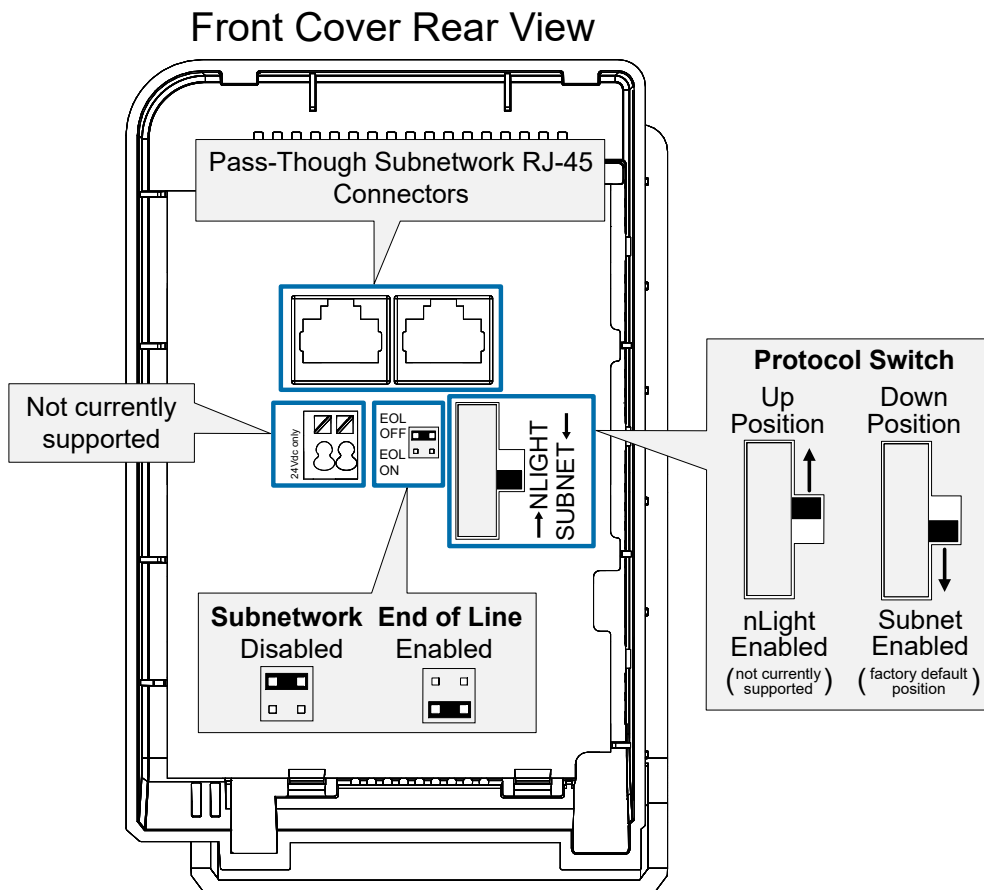

Figure 3: UNITOUCH Jumper and Dip Switch Locations
3. Ensure the EOL jumpers are correctly set and that the protocol toggle is in the SUBNET (default) position. See [Figure 3 \[pg. 3\]](#) for jumper and dip switch component locations.